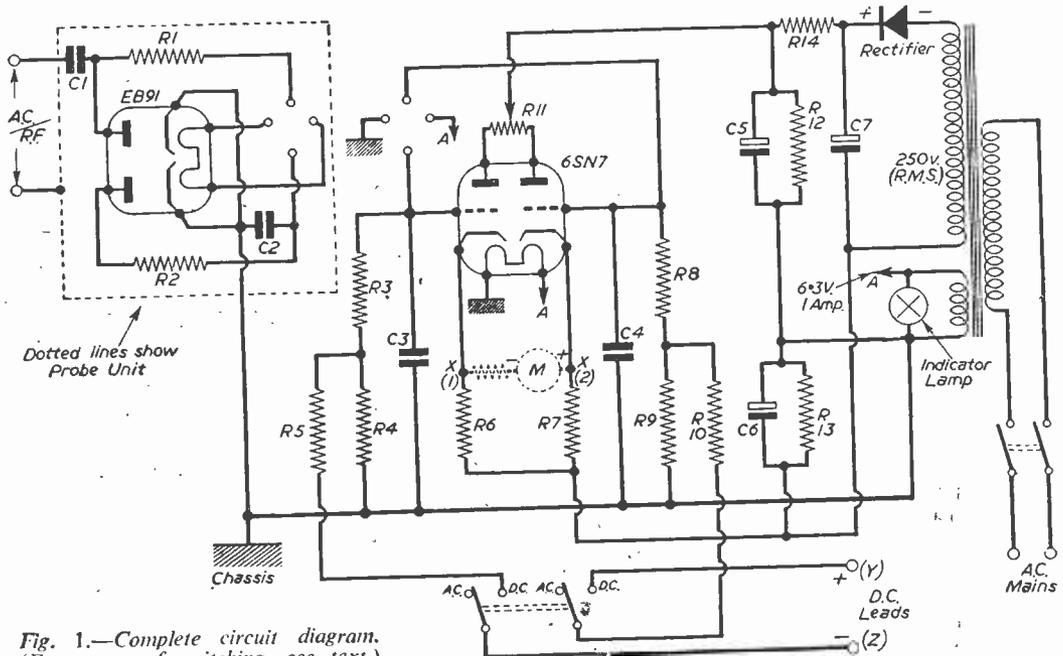
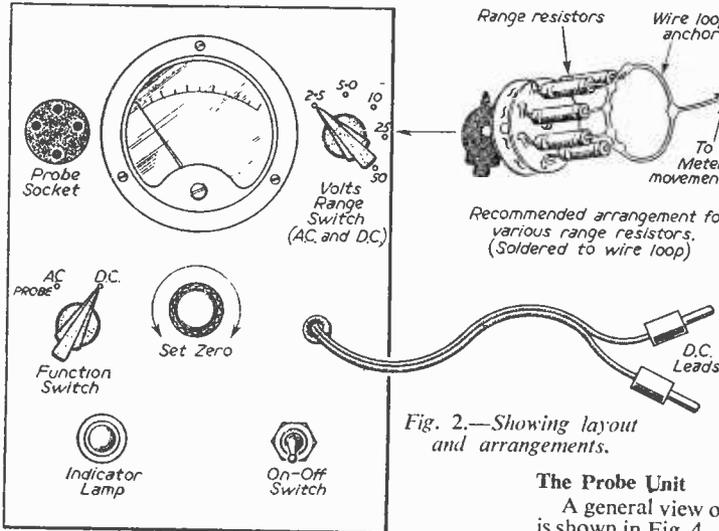
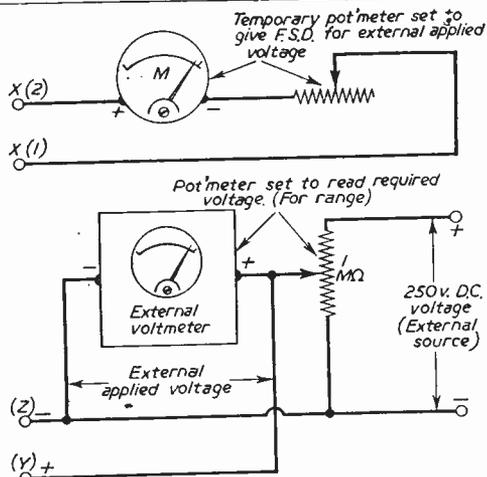

Fig. 1.—Complete circuit diagram. (For range of switching—see text.)
Fig. 2.—Showing layout and arrangements.
Fig. 3 (above).—Method used for calibrating various meters (100 $\mu$ A—500 $\mu$ A). Fig. 4 (right).—General view of probe (made from a mustard tin).
The circuit diagram is given in Fig. 1, and it will be noted that the meter movement is shown in dotted lines between points marked X(1) and X(2). These actual arrangements are discussed later, where it is proposed to give *practical directions* for utilising any meter movement having F.S.D. of between 100 and 500 microamps. This was undertaken in view of the expensive nature of this item and it is left to the individual to decide what he can afford. The range switch has been omitted from the circuit as this is a simple single-pole type in series with the meter movement (the number of contacts depending on the number of ranges required by the individual). Fig. 2 shows this switch together with the author's layout.
The arrangement of Fig. 3 is such as to "tie up" with the circuit diagram proper. The D.C. valve voltmeter leads have been marked (Y) and (Z) to give correct polarity when 6SN7 valveholder is wired strictly in accordance with valve base diagrams (*not* given).
This arrangement (Fig. 3) will be familiar to all those who have "compared" the calibration of one meter against another and the system is strictly analogous. The position shown in Fig. 2 for the range switch should temporarily be occupied by a 50K potentiometer (from "spares" box) for calculating the resistors necessary for lower ranges of volts. A flying lead with crocodile clip is taken from "arm" of potentiometer to negative terminal of meter movement; the clip facilitates removal for measuring